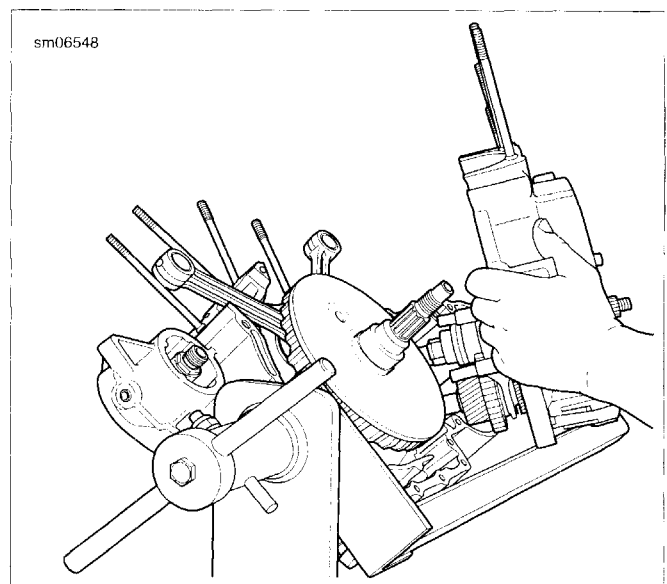

Figure 3-75. Separating Crankcase Halves
- Tap crankcase gently with rawhide mallet to loosen and separate the halves. See Figure 3-75. Remove left crankcase assembly with transmission.